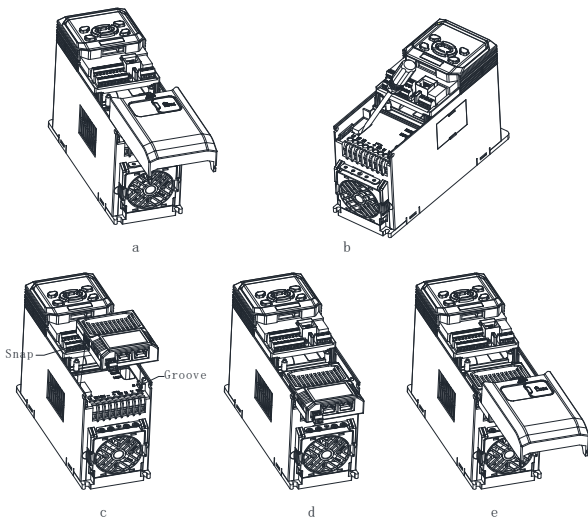

Fig. 4 PN option installation steps
part of the lower cover, slide it down with a certain amount of force to remove the lower cover, as shown in Fig. 4-a.
- (2) Use a straight screwdriver to pry open the dust-proof cap or remove the rubber plug, as shown in Fig. 4-b.
- (3) Install the PN option: hold the expansion box (a bus card inside) upwards (indicators up), align the expansion box with the electrical bus interface in the installation position, and press down horizontally to buckle the spring snap of the expansion box into the groove at the lower part of the drive, as shown in Fig. 4-c and Fig. 4-d.
- (4) The bus option is successfully installed, as shown in Fig. 4-e.